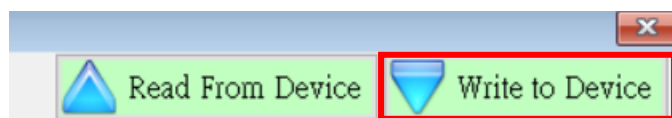
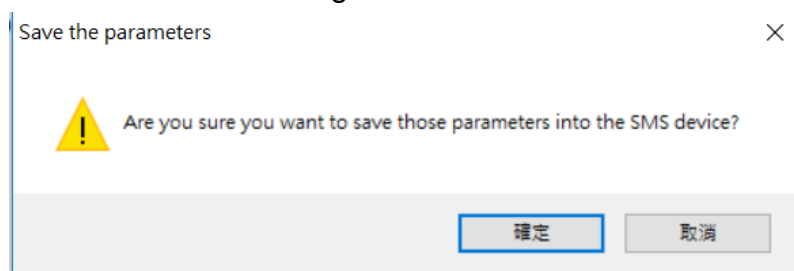
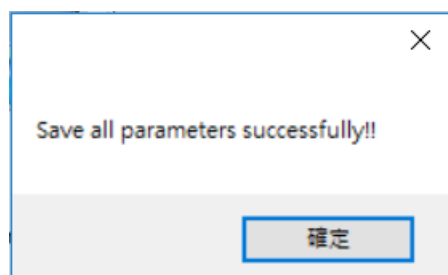

Figure 6.10.31
Figure 6.10.32
Figure 6.10.33
L. After finishing the selection, click “Write to Device”. As shown in Figure 6.10.31, write the settings to GTP-541M. At this time, the confirmation window will pop up and click OK. As shown in Figure 6.10.32, the parameters will be written. After the data is completed, the success window will pop up as shown in Figure 6.10.33